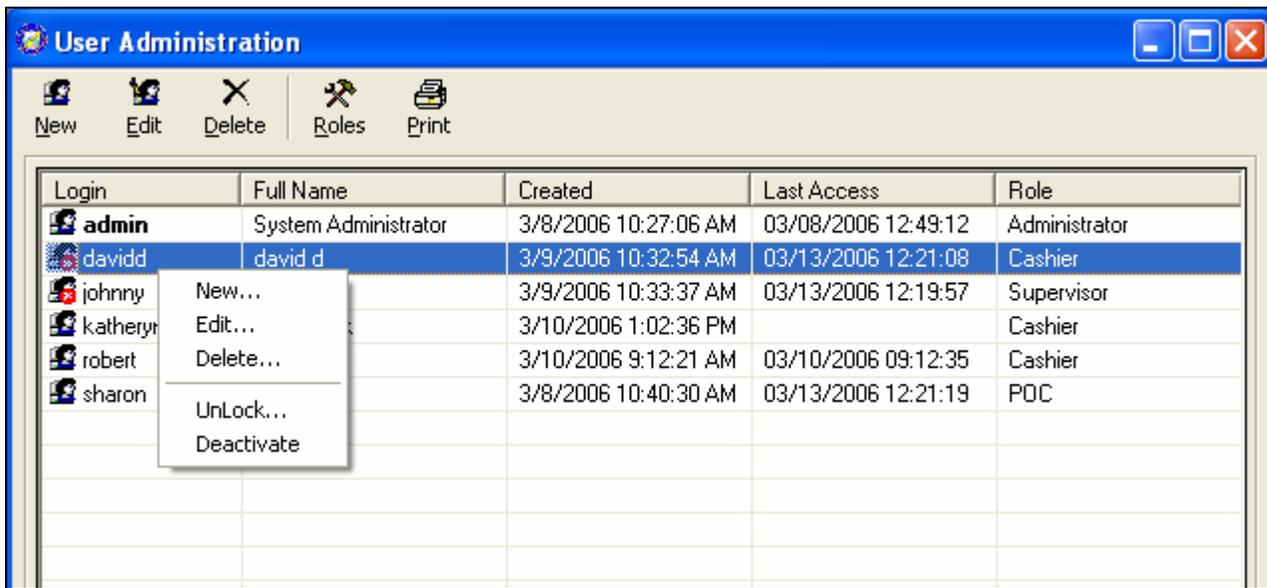

Figure 3.19
3. Right click on the Login whom you wish to deactivate. A drop down menu will appear with choices as seen in Figure 3.19.